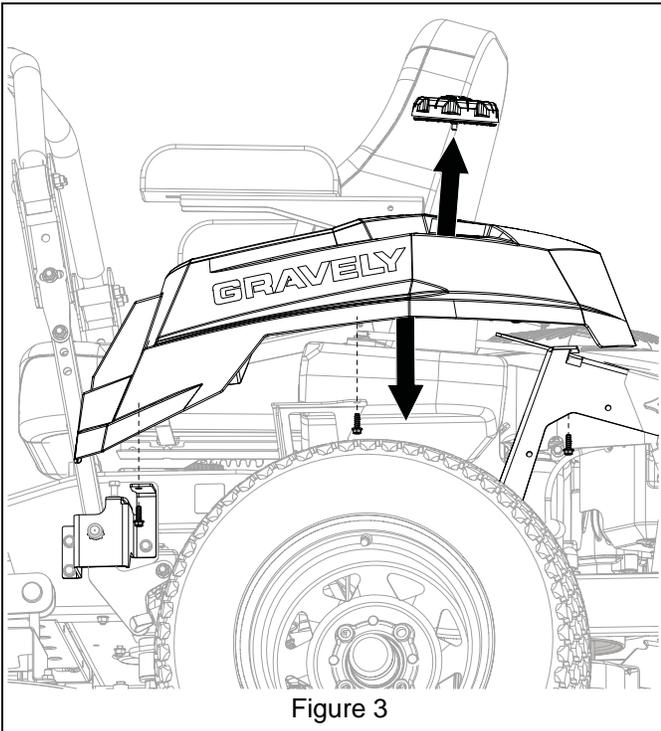

Figure 3
3. *HD Models:* Remove four plastic hex screws retaining left fender and remove fender. See Figure 3.